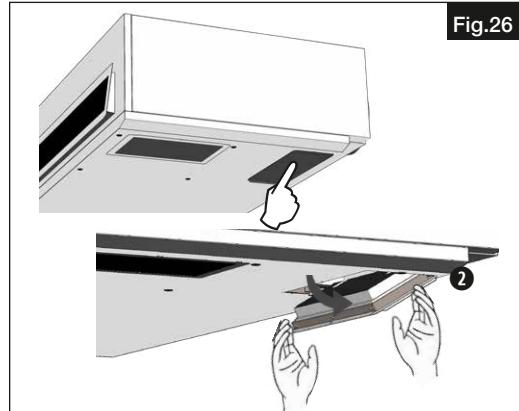
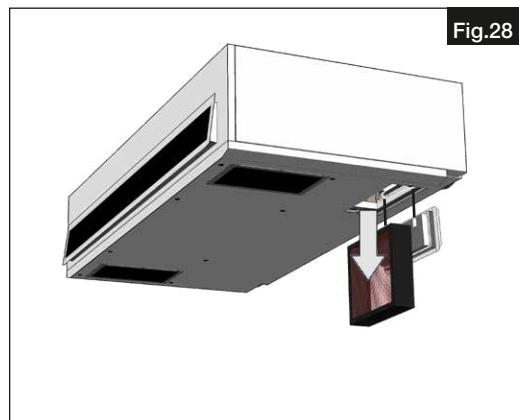

Fig.26
Fig.28
1. Grasp holder ② with your fingertips. Open the cover. Remove filter and replace with new filter (see Fig.26 - Fig.28). Once the filter has been replaced, the unit or controller will automatically detect that a new filter has been inserted. Check that filter is secure and close the cover after replacement.